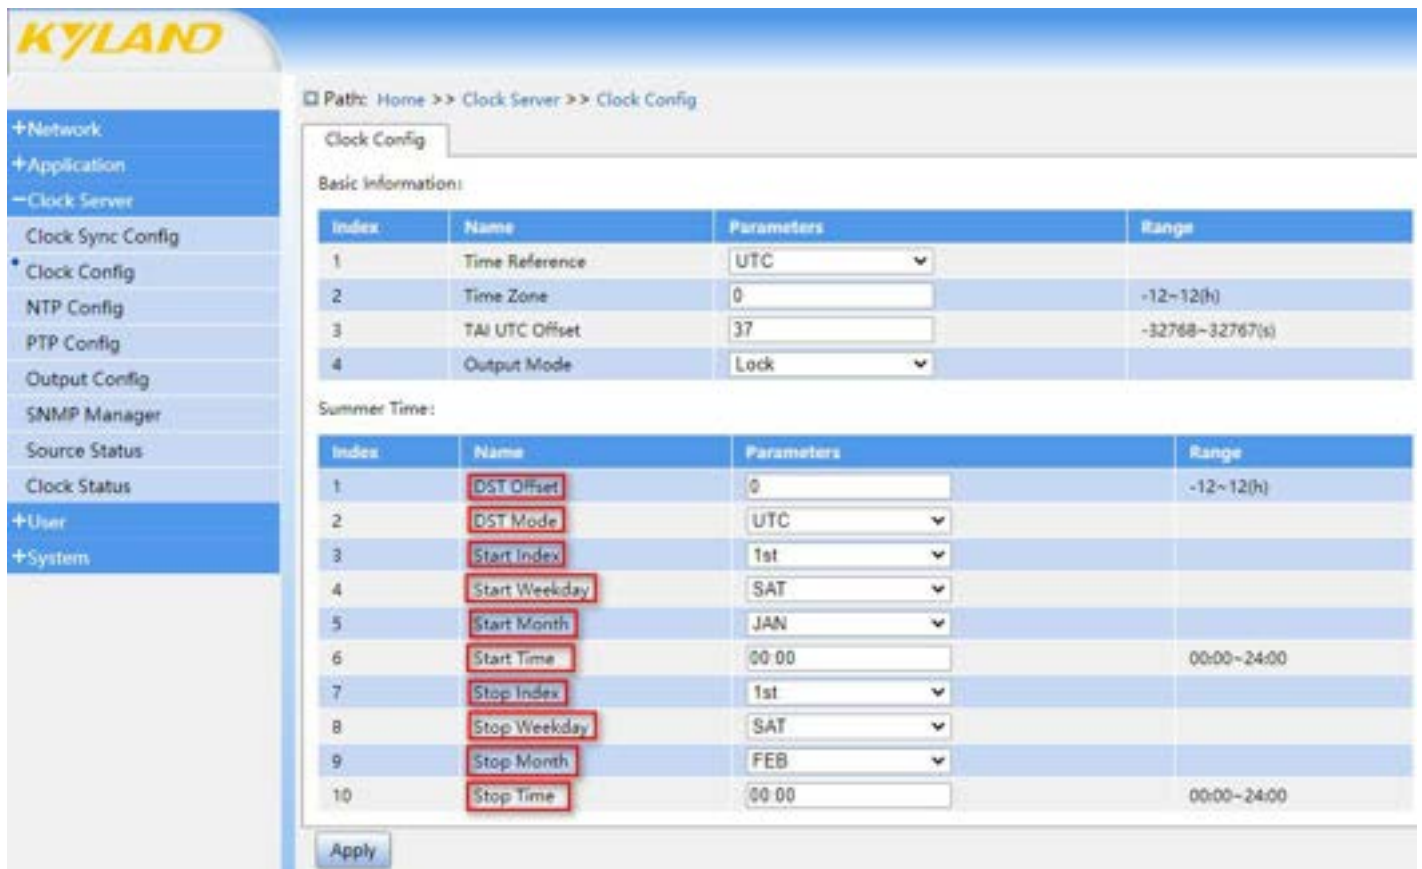

Figure 26 Time clock parameter summer time configuration
2. Configure summer time information, as shown in Figure 26: